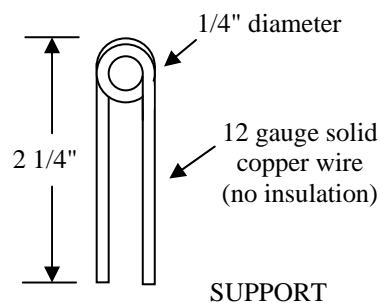

Figure 3
- 2) The rotor supports and current leads are made from #12 bare (no insulation) copper wire. Wind the wire two turns around the 3/8" diameter wood dowel and leave the ends about 2 1/4" long (see Figure 3).